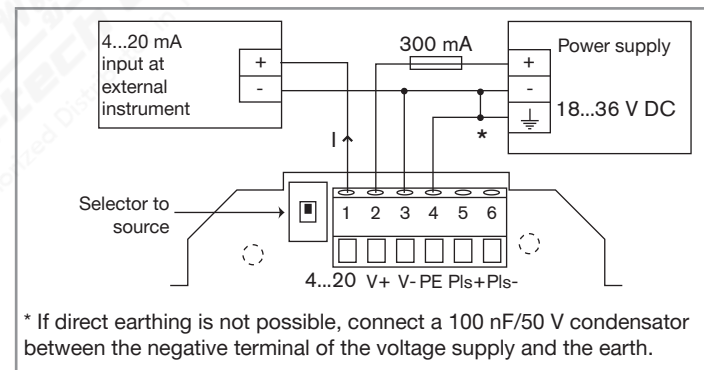
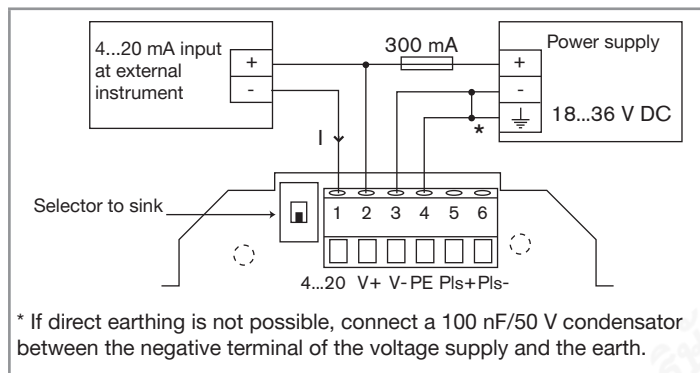

Fig. 17: Connection of the current output in sourcing mode
Fig. 18: Connection of the current output in sinking mode
- Set the selector of the electronic board to the sourcing or the sinking position (see Fig. 17 or Fig. 18).
- Connect the 4...20 mA output in sourcing mode (see Fig. 17) or in sinking mode (see Fig. 18).
- Earth the device (see Fig. 17 or Fig. 18).